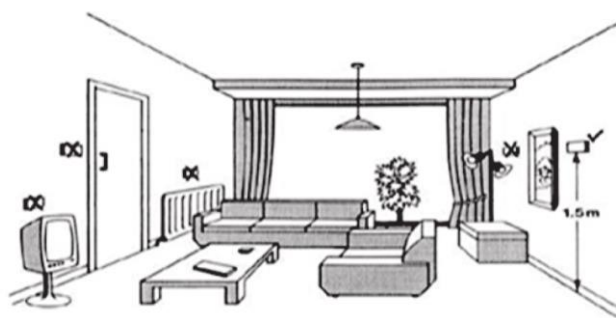

Figure 17 - Installation in a room thermostat or air temperature sensor.
5.4.2 It is better to install the temperature sensor in living quarters. Location of the sensor according to the recommendations - see Figure 17. It is not recommended to install the temperature sensor next to the climatic equipment, for drafts. Avoid direct sunlight on the sensor.